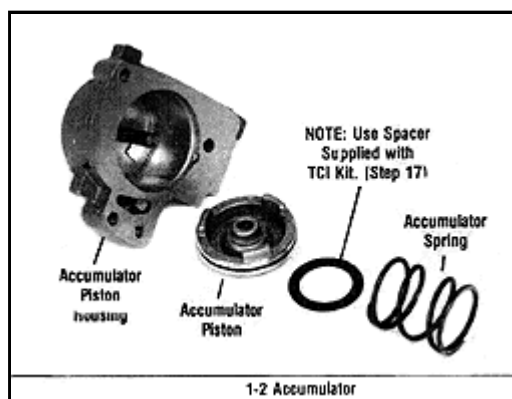

Figure 5
STEP 5 3-4 ACCUMULATOR ASSEMBLY: (**See Figure 5**) Install the thick spacer supplied (silver) into the accumulator piston with some grease to hold it into place. Install the 3-4 piston pin into the case. Install the accumulator piston/spacer assembly into the case. Install the stock spring against the spacer.